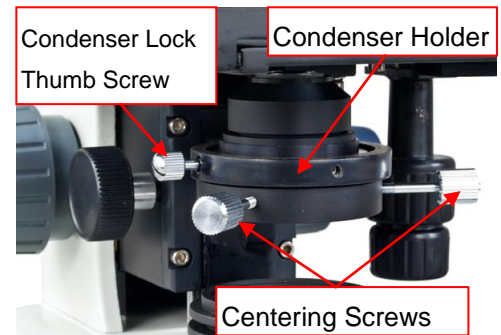

Fig.9
- Loosen the condenser lock thumb screw, pull down the condenser and take it off, insert the dry darkfield condenser in, and tighten the condenser lock thumb screw (See **Fig. 9**).